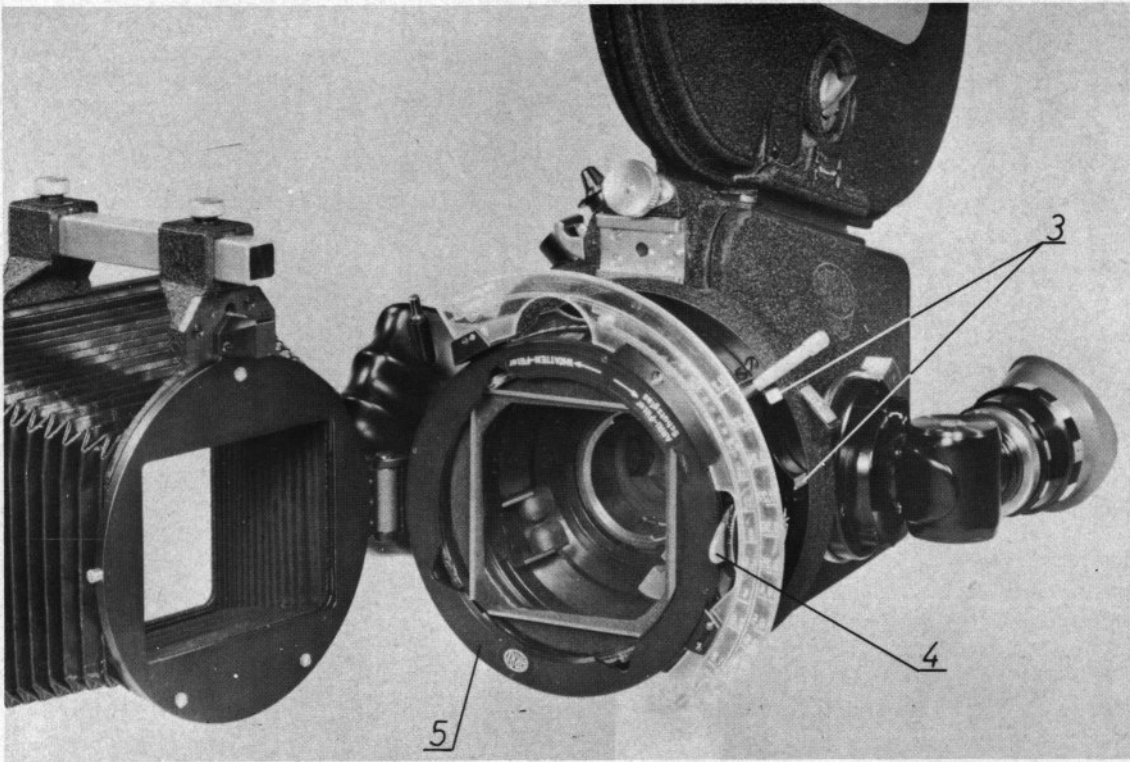

Fig. 3
II. Turn the locking ring (Fig. 3/3) to give a firm seating, loosen the closure of the front door (Fig. 3/4), open the hinged door and remove the filter holder (Fig. 3/5). Set focusing lever at ∞ , and swing out diaphragm driver (Fig. 4/7).
V. Insert the filter holder (Fig. 3/5) and close the front door (as for zoom lenses).